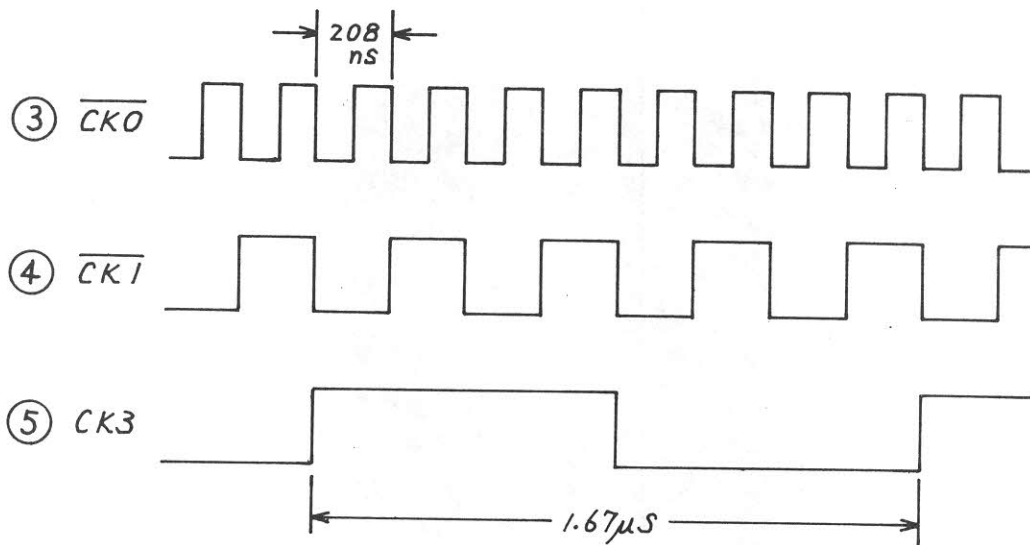

Fig. 5-76 Clock Signals for Display Control
5.	Check that the 4.8 MHz reference clock $\overline{\text{CK0}}$ ③, the frequency-divided clocks $\overline{\text{CK1}}$ ④, and CK3 ⑤ obtained from the reference clock operate normally as shown in Fig. 5-76.